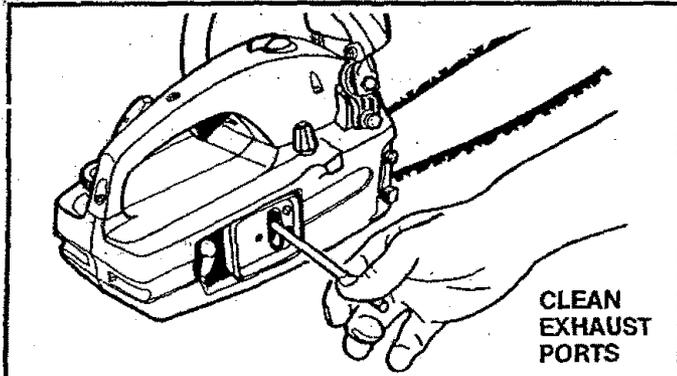

Figure 47
- Scrape the carbon deposits from the exhaust ports and surrounding exhaust chamber using a hardwood stick. Figure 47.